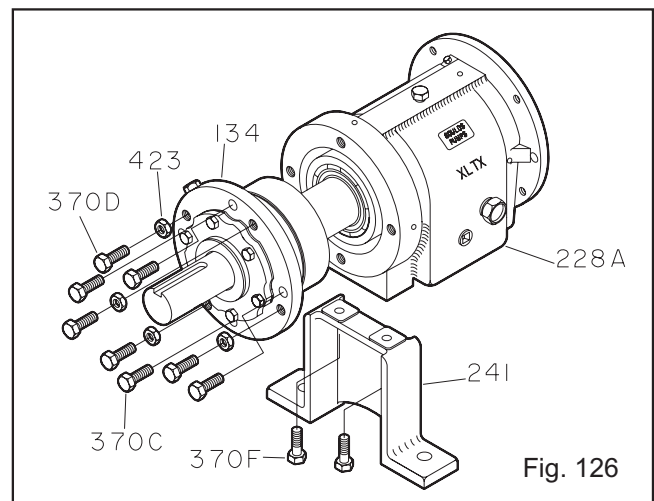

Fig. 126
- Install shaft assembly into frame (228A), making sure to leave approximately 0.125 in. (3.175 mm) clearance between the face of the bearing housing and bearing frame. Check shaft for free turning (Fig. 126).
- Install clamping bolts (370C) into bearing housing (134). Hand tighten.
- Install jacking bolts (370D) with locking nuts (423) into housing (134). Hand tighten.
- Attach bearing frame foot (241) with bolts (370F). Hand tighten.